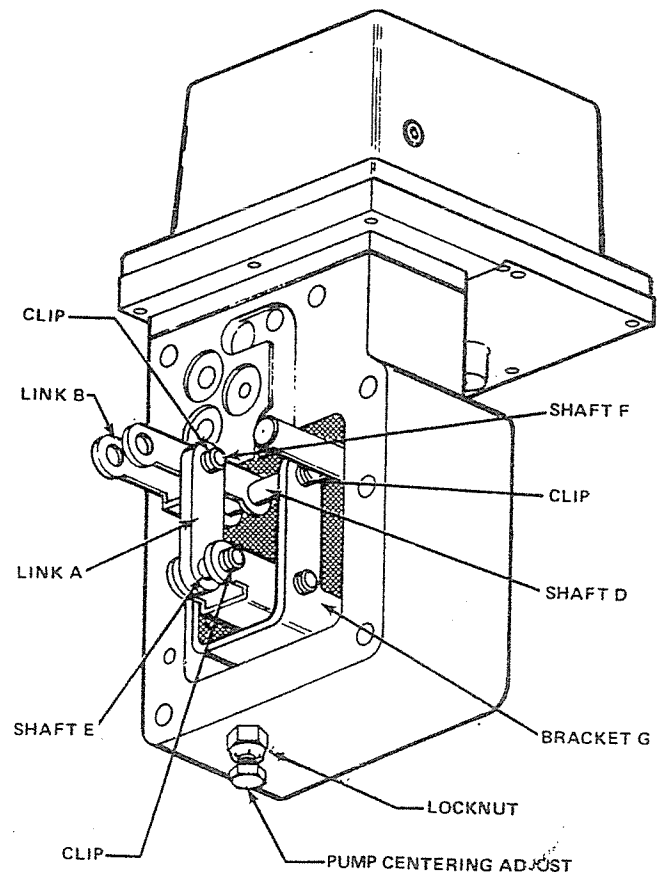

Figure 4—Assembly of Feedback Linkage.
1. Figure 4 identifies the components of the feedback linkage. Note that the links are identified by a number. The corresponding series numbers are tabulated in Table A. Loosen the locknut of the pump centering adjust bolt (shown in Figure 4), and back out the bolt until there is clearance for removal of shaft D (Figure 4).
3. Replace shaft D in the same location, placing link B on the shaft between the legs of bracket G. (see Figure 4). Replace the retaining clip. **(CAUTION:** If clip is accidentally pressed over the shaft rather than in the groove, discard and use new "C" ring.)
6. Install shaft F (supplied with the linkage assembly) through the middle holes of link B, capturing link A outside the legs of link B (see Figure 4). Install retaining clips on the ends of shaft F.